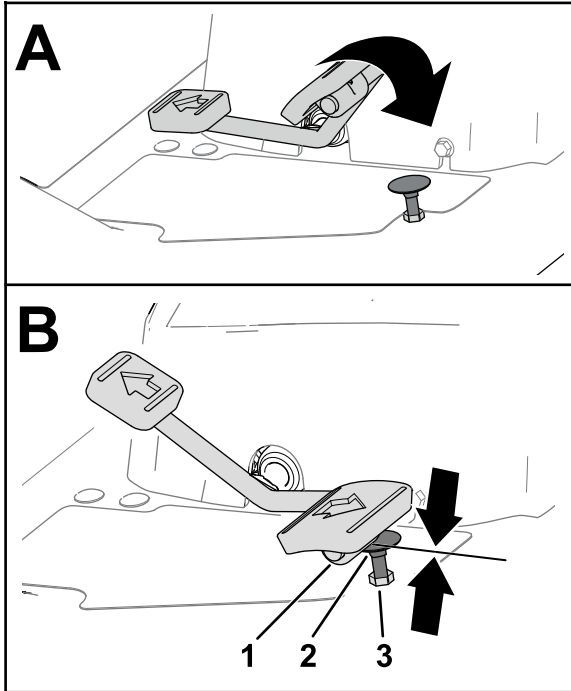
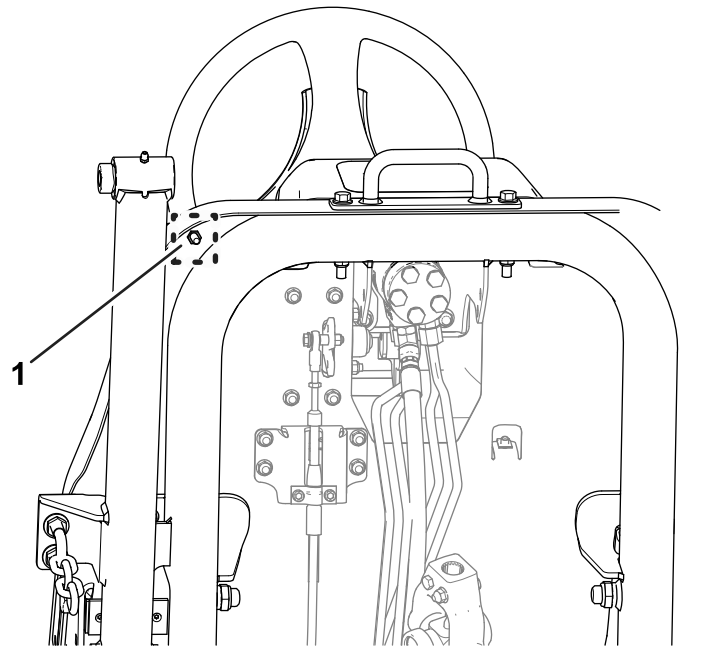

Figure 78
Figure 79
1. Move the traction pedal fully forward (Figure 78).
- A. Hold the traction-pedal stop (Figure 78) with a wrench.
- B. Loosen the jam nut at the bottom of the footrest plate (Figure 79).
- C. Move the traction pedal to the full forward position (Figure 78).
- D. While holding the traction-pedal stop, adjust the jam nut that is above the footrest plate (Figure 78) until the traction pedal makes contact with the stop.
- F. While holding the traction-pedal stop, torque the jam nut at the bottom of the footrest plate (Figure 78 and Figure 79) to 37 to 45 N·m (27 to 33 ft-lb).